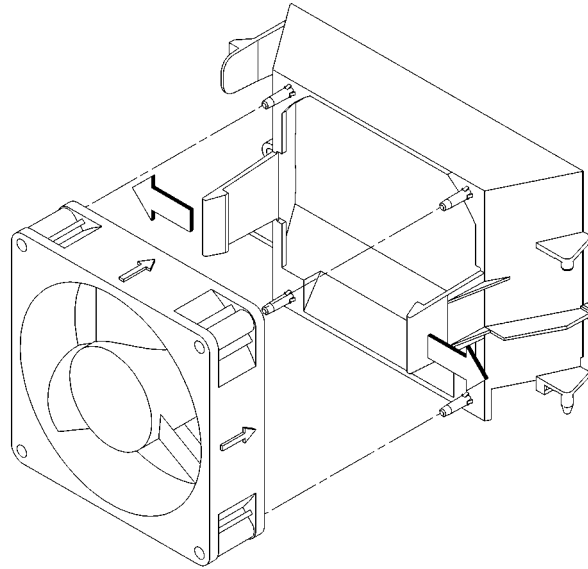

Figure 54 **Removing the Fan**
- 4 Pull the fan retaining clips away from the fan and remove the fan from the fan housing, as shown in Figure 54.